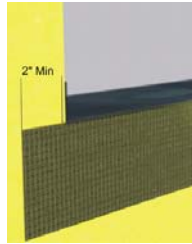

Figure 1
- 1) Cut AquaFlash® Mesh to proper length [rough opening plus 102 mm (4 in)] extending 51 mm (2 in) past each jamb – Figure 1.